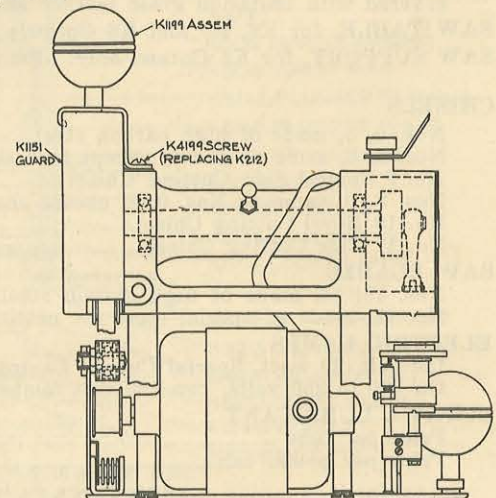

Figure 18
**G6—INSTALL SPECIAL K1199 BALL HANDLE.** Remove the K212 screw (see figure 18.) Hook the end of the mounting bracket to which the ball handle is fastened over the edge of the K1151 guard. Align the screw hole in the K1199 mounting bracket with the hole from which the K212 screw was removed, and fasten the bracket in place by inserting and tightening the special K4199 screw which is sent with the K1199 ball handle.